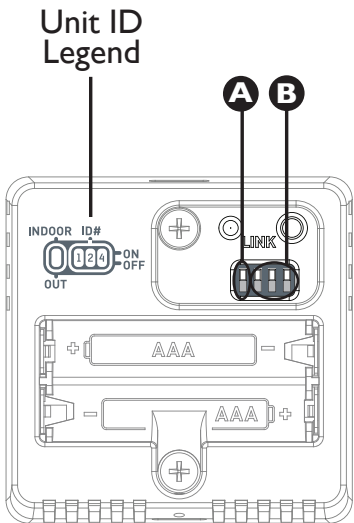

fig. 2
2. Configure the Sensor. (use fig. 2 as a guide)